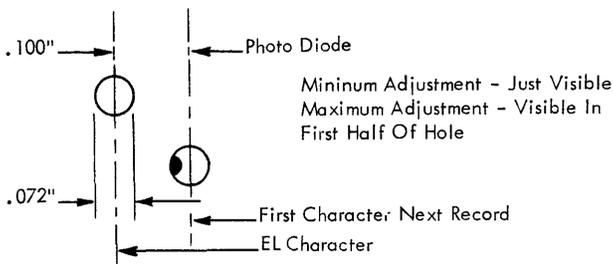

Figure 4-21. 1621 Brake Adjustment
3. Observe where the tape stops. The photo diodes should be just visible beneath the holes of the first character of the next record. If the leading edge of the first character tape hole is more than $\frac{1}{2}$ way past the photo diode, the tape has not stopped fast enough (Figure 4-21).